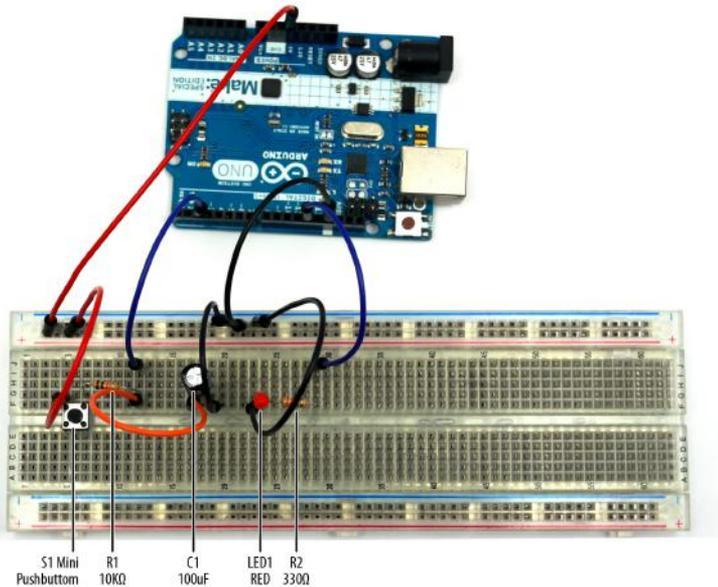
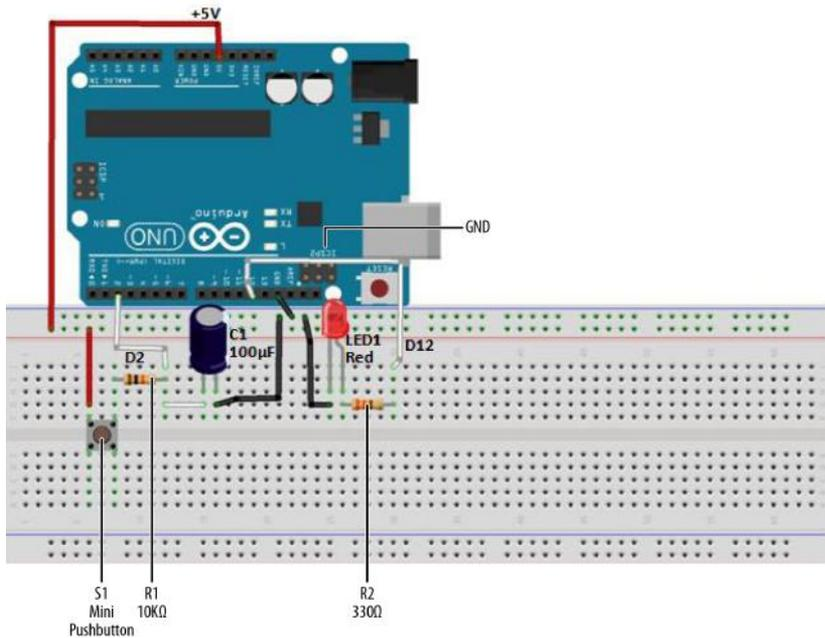

Figure 1-1. Trick Switch circuit built on a full-size clear breadboard (both the 100 uF electrolytic capacitor and red LED negative pins are wired to ground)
Figure 1-2. Trick Switch Fritzing diagram
In electronics, sometimes we want to keep a device on for a certain amount of time even when an electrical switch is turned off. Ordinary pushbuttons used to turn electronic devices on and off can easily be operated by a timed delay switch. How awesome would it be to create such a device to delay turning off a simple LED? Such a gadget could be used to trick your friends, family, or even the local Makerspace when they see the LED staying on after the pushbutton has been released. With a few electronic components from the Ultimate Microcontroller Pack, you can make an LED (light-emitting diode) stay on for a few extra seconds when a pushbutton switch is turned off. Figure 1-1 shows an assembled Trick Switch. The electronic components required to build the Trick Switch are shown in the Parts List.
When you press the pushbutton switch on this device, the LED turns on. The capacitor will begin storing electrical energy from the +5VDC power supply circuit of the Arduino. Releasing the pushbutton switch cuts off the flow of electricity from the source, but the energy stored in the capacitor keeps the Arduino running for a few extra seconds. The Arduino keeps the LED lit until the capacitor's stored energy is empty. You can build the Trick Switch using the electronic components from the Parts List and the Fritzing wiring diagram shown in Figure 1-2. Here are the steps required to build the electronic device:
2. Wire the electronic parts using the Fritzing wiring diagram of Figure 1-2 or the actual Trick Switch device shown in Figure 1-1.